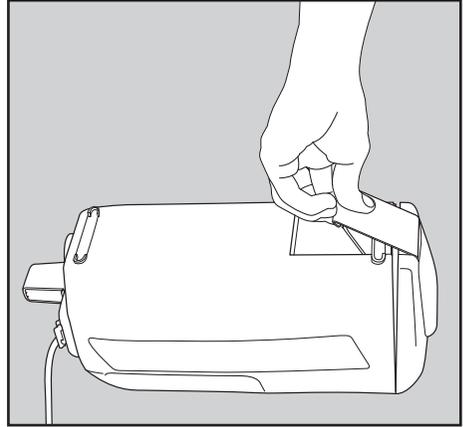

Fig. 16
- Turn the vacuum over. Lift up the cover retaining clip to remove the cover (Fig. 16).